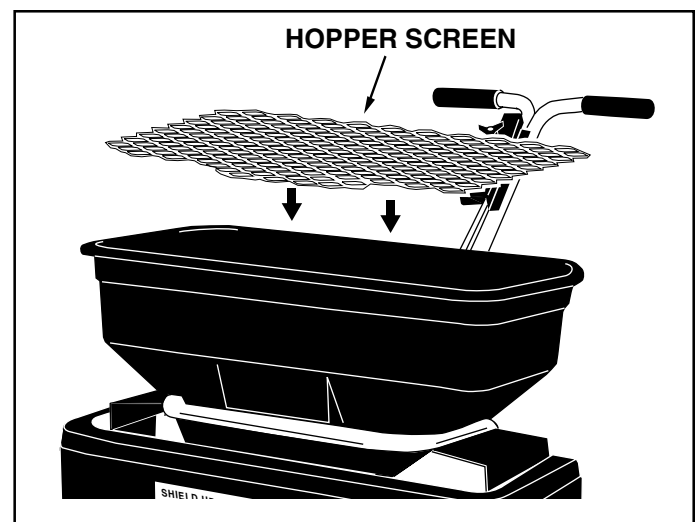

FIGURE 15
28. Place the hopper screen down into the hopper to help break up clumpy material and to prevent large clumps from reaching the bottom of the hopper and clogging the opening. See figure 15.